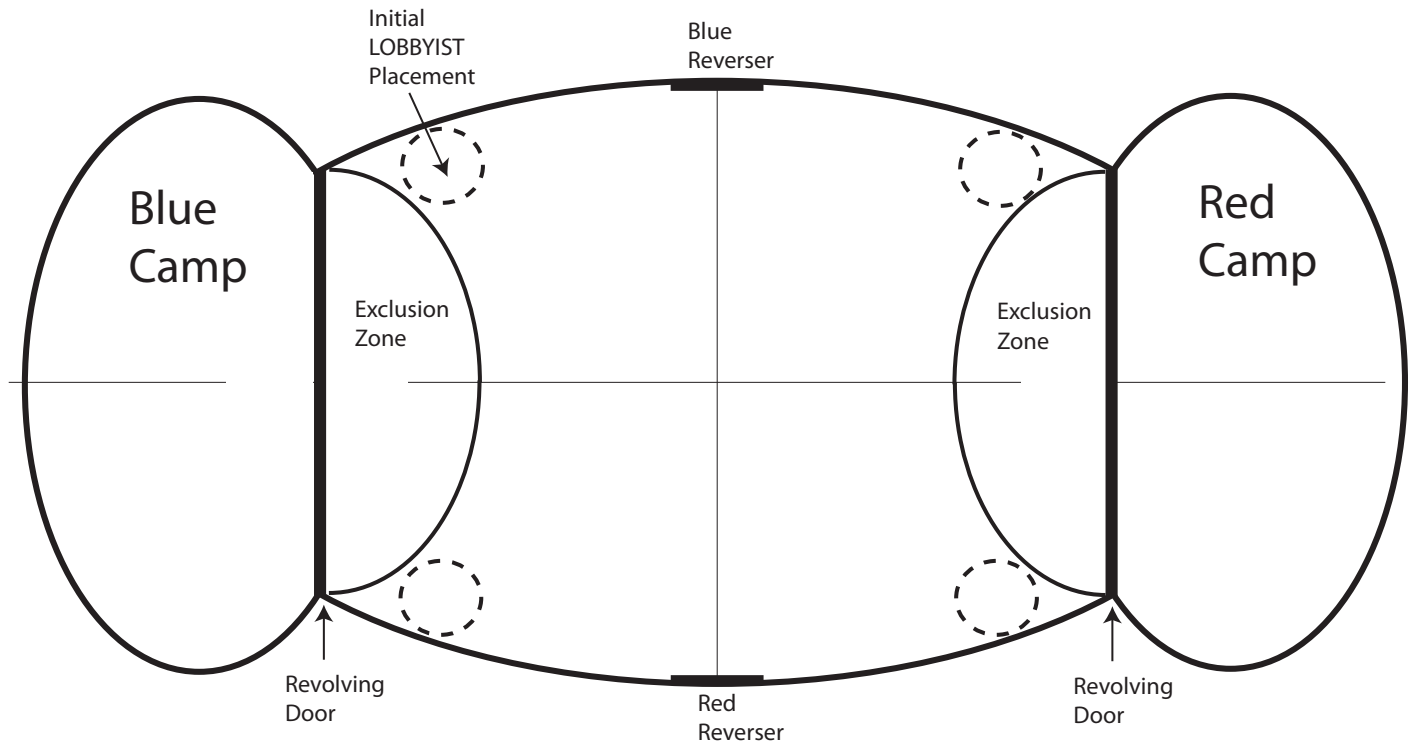

Figure 1: The Political Arena
- The Political Arena is comprised of a region at the West end of the building 550 Atrium, measuring approximately 16 ft. by 24 ft (see Figure 1).
- At the beginning of each game the participating LOBBYISTs will be placed in one of the four corners of the Arena as shown in Figure 1.
- During a game, a LOBBYIST may not remain in the Exclusion Zone (See Figure 1) for more than 15 seconds at a time.